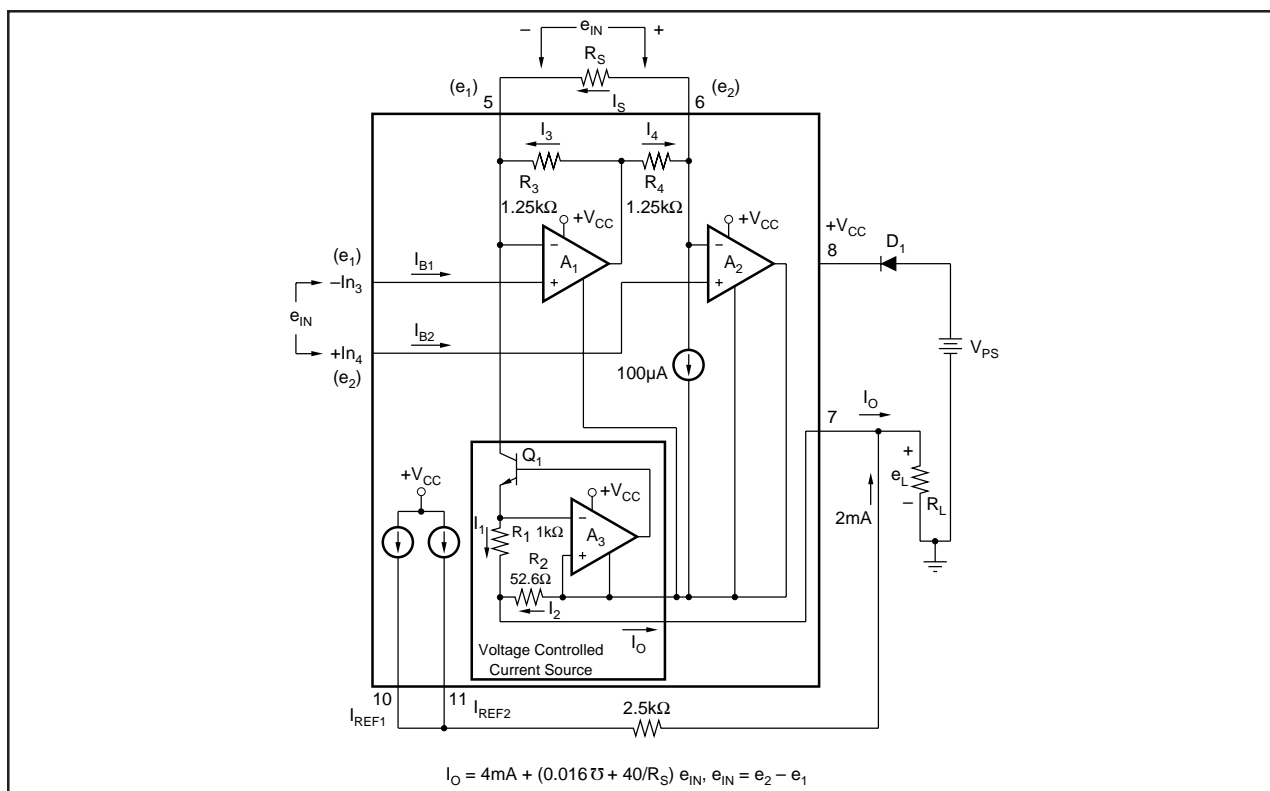

FIGURE 1. Simplified Schematic of the XTR101.
A simplified schematic of the XTR101 is shown in Figure 1. Basically the amplifiers, A_1 and A_2 , act as a single power supply instrumentation amplifier controlling a current source, A_3 and Q_1 . Operation is determined by an internal feedback loop. e_1 applied to pin 3 will also appear at pin 5 and similarly e_2 will appear at pin 6. Therefore the current in R_S , the span setting resistor, will be $I_S = (e_2 - e_1)/R_S = e_{IN}/R_S$. This current combines with the current, I_3 , to form I_1 . The circuit is configured such that I_2 is 19 times I_1 . From this point the derivation of the transfer function is straightforward but lengthy. The result is shown in Figure 1.
The basic connection of the XTR101 is shown in Figure 1. A difference voltage applied between input pins 3 and 4 will cause a current of 4-20mA to circulate in the two-wire output loop (through R_L , V_{PS} , and D_1). For applications requiring moderate accuracy, the XTR101 operates very cost-effectively with just its internal drive transistor. For more demanding applications (high accuracy in high gain) an external NPN transistor can be added in parallel with the internal one. This keeps the heat out of the XTR101 package
- It is recommended that a reverse polarity protection diode (D_1 in Figure 1) be used. This will prevent damage to the XTR101 caused by a momentary (e.g., transient) or long term application of the wrong polarity of voltage between pins 7 and 8.